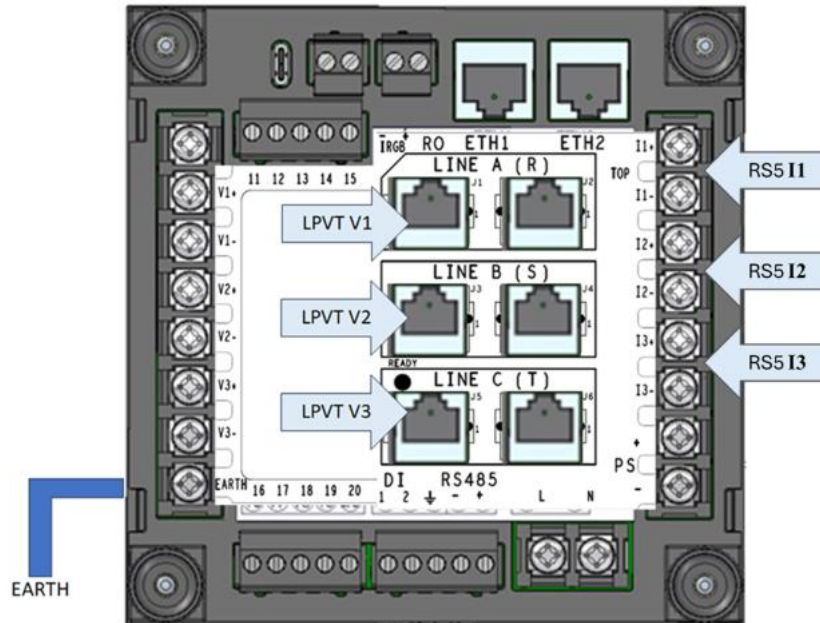

Figure 6-8. Connection diagram
- The EARTH wire must be at least 4 mm2 square section connect to dedicated screw as shown on Figure 6-8.